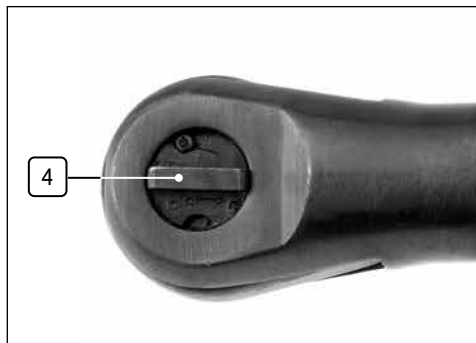

Fig. 5
7.2 Forward/Reverse Selection (Fig.5)
- Turn the selector (4) anti-clockwise to select (F) forward and clockwise for (R) reverse operation.